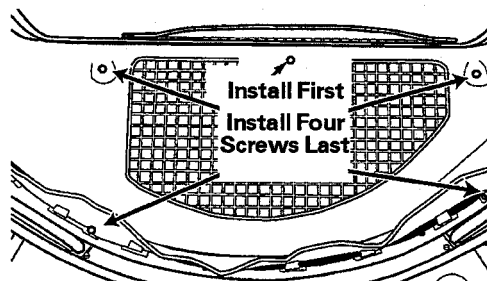

Figure 2-32
4. When reattaching the outlet duct assembly to the tumbler front, install the center screw (found above the grid area) first, followed by the four outside screws in any order, see **Figure 2-32**.